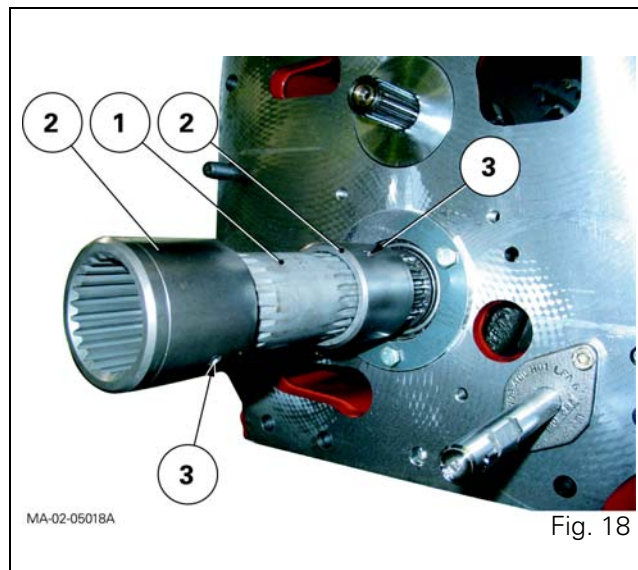

Fig. 18
- Presence of the union shaft (1) composed of the sleeves (2) and double pins (3) (Fig. 18).